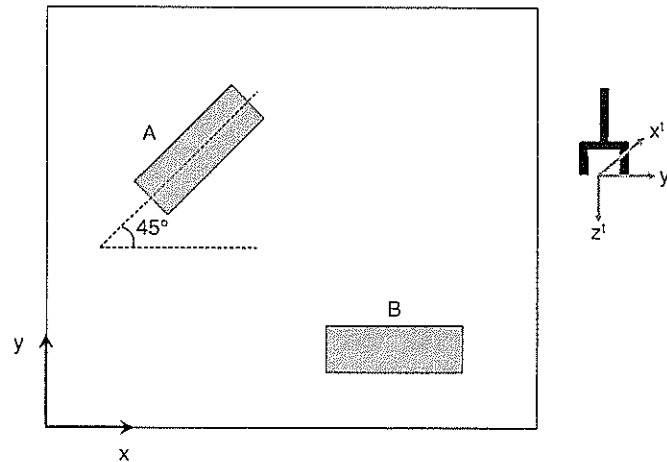

Fig. Q5
- a) A robotic workstation, with parts A and B, is as shown in Fig. Q5. Given that the centroid of part A has coordinates  $[2 \ 12 \ 5]^T$  and the centroid of part B has coordinates  $[7 \ 3 \ 5]^T$ .